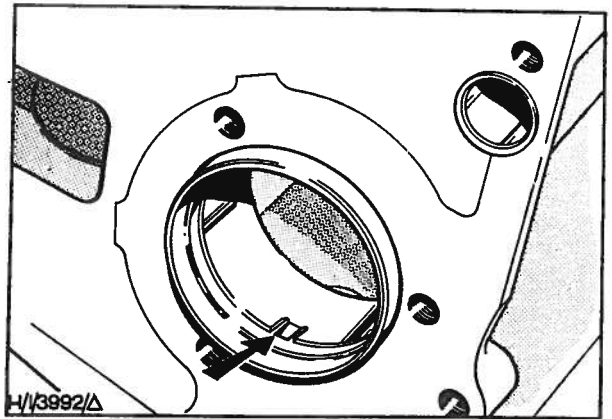

Fig. 37 - Camshaft Front Bearing Tang
4. Bend up the tang on the camshaft front bearing (Fig. 37).
11. After fitting the front bearing, bend the tang into the locating hole in the cylinder block - see Fig. 37.